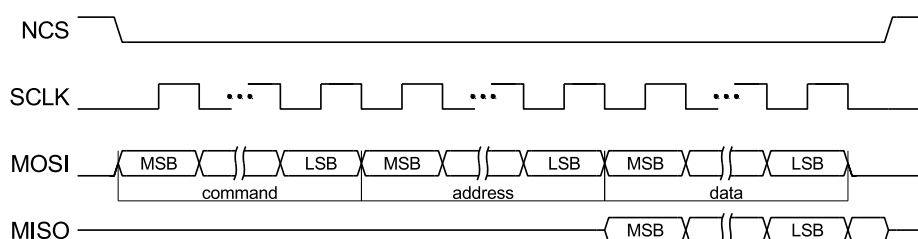

Figure 19: SPI communication
When operating in conjunction with an SPI controller, the pin ALE is used as a clock input (SCK), the pin NCS as an enable input (NCS), the pin DB0 is used as the data input (SI) and the pin DB1 is used as the data output (SO). Data is transmitted serially in successive blocks of 8 bits starting with the command. Depending on the commands, the following blocks represents an address and one or more data bytes (see figure 19). Six commands are available: